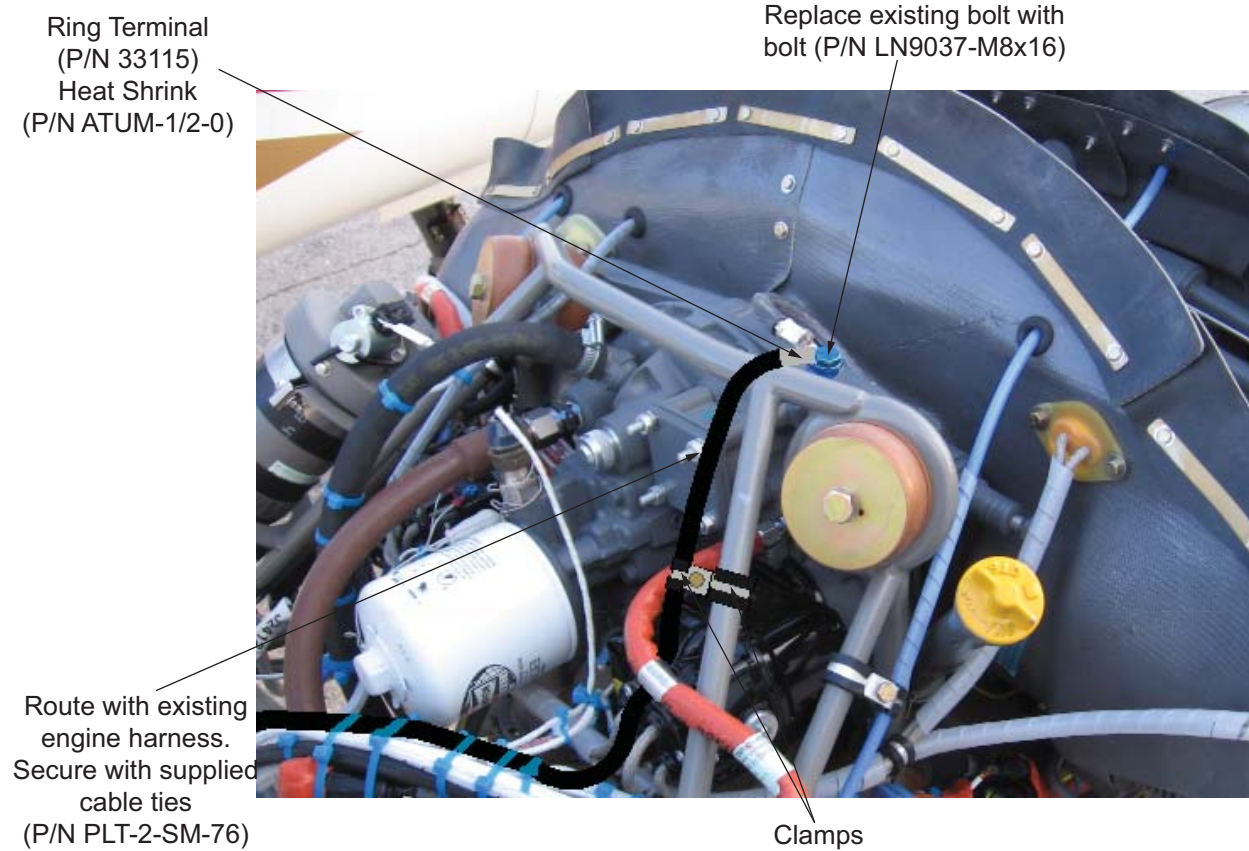
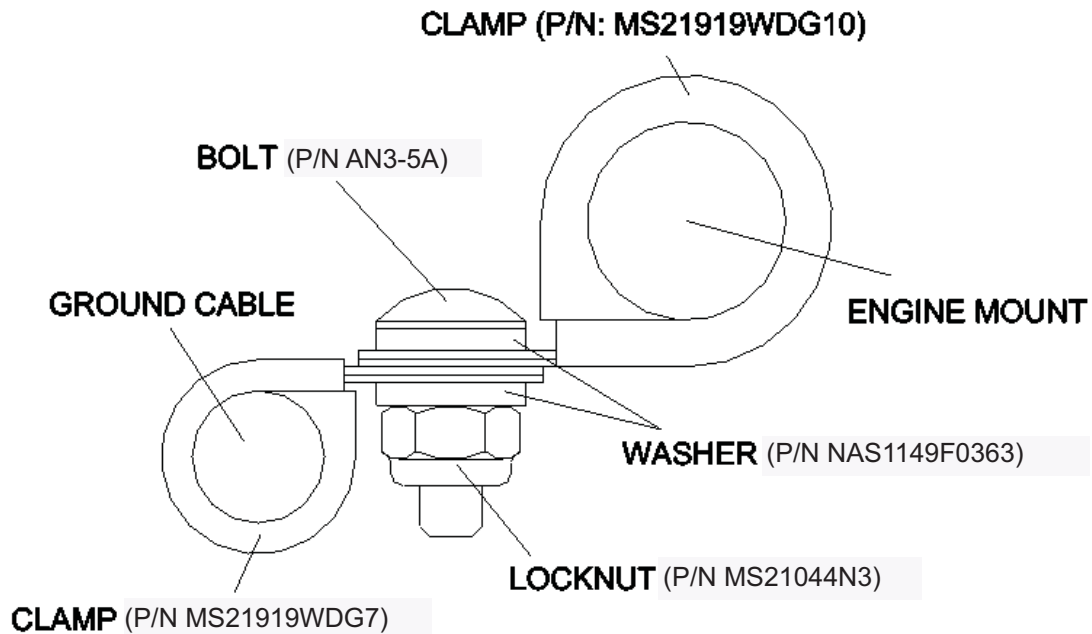

Figure 7
Figure 8
10.3.1.5 Secure the crimped 4 AWG cable to the LH engine mount ground tab. Apply Nycote 7-11 (or equivalent) after installation. See Figure 7.
10.3.1.6 Route the cable and secure as shown in Figure 7.
10.3.1.7 Clamp the ground cable as shown in Figure 7 and Figure 8.
10.3.2.4 Apply Nycote 7-11, or equivalent, after installation. See Figure 7.
10.3.2.5 Route the cable and secure as shown in Figure 7 and Figure 8.